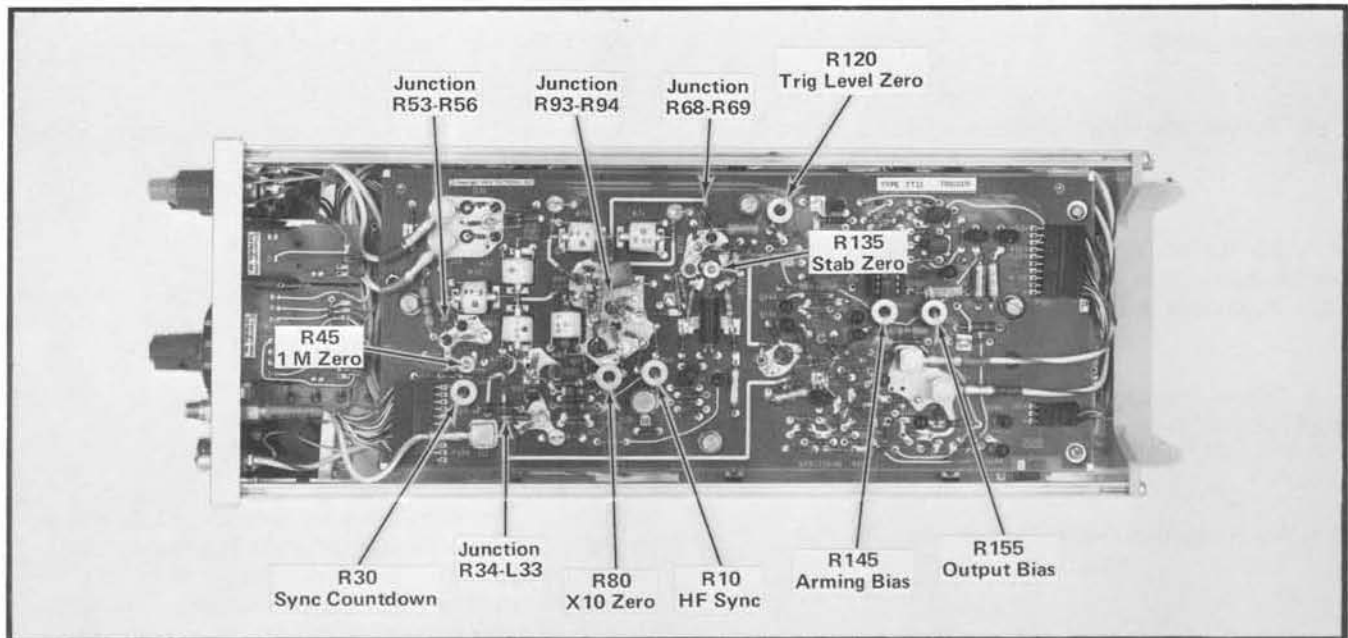
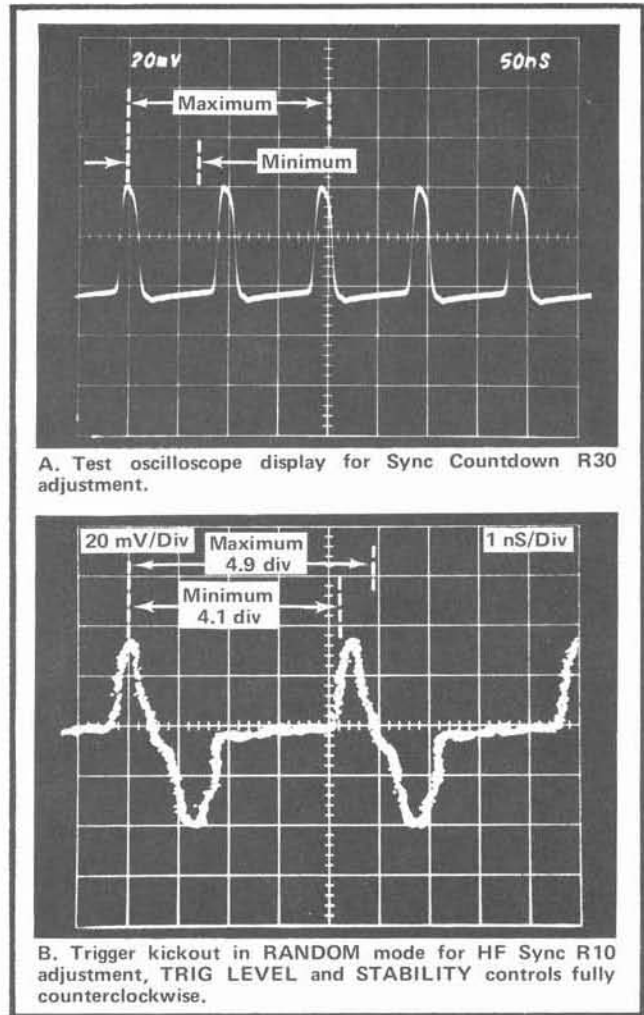

Fig. 5-7. Test point and adjustment locations on the Trigger Board, 7T11 right side.
Fig. 5-8. Typical displays for HF Sync adjustments.
7. Adjust Random Timing (R270) ❶
8. Adjust Trig Level ❶
c. Connect the 1X probe from the +Input to the junction of R68-R69, on the Trigger Board (Fig. 5-7).
9. Adjust Stability (R135) and Trig Level Zero (R120) ❶
c. Adjust Stab Zero control R135 and Trig Level Zero control R120 so the trace starts to oscillate when the STABILITY control is about 60° to 90° from fully counterclockwise. See Fig. 5-7 for control locations.
10. Adjust External Trigger Zero (R80 and R45) ①
- e. Connect the 1X probe to the junction of R94-R93; see Fig. 5-7.
11. Adjust HF Sync (R10 and R30) ①
- e. Obtain a stable display and check for a pulse repetition rate of about 10 MHz (between 5 MHz and 15 MHz is acceptable). See Fig. 5-8.
d. Initially set both Output Bias control R155 and Arming Bias control R145 (see Fig. 5-7) fully clockwise. The trace actually free-runs.